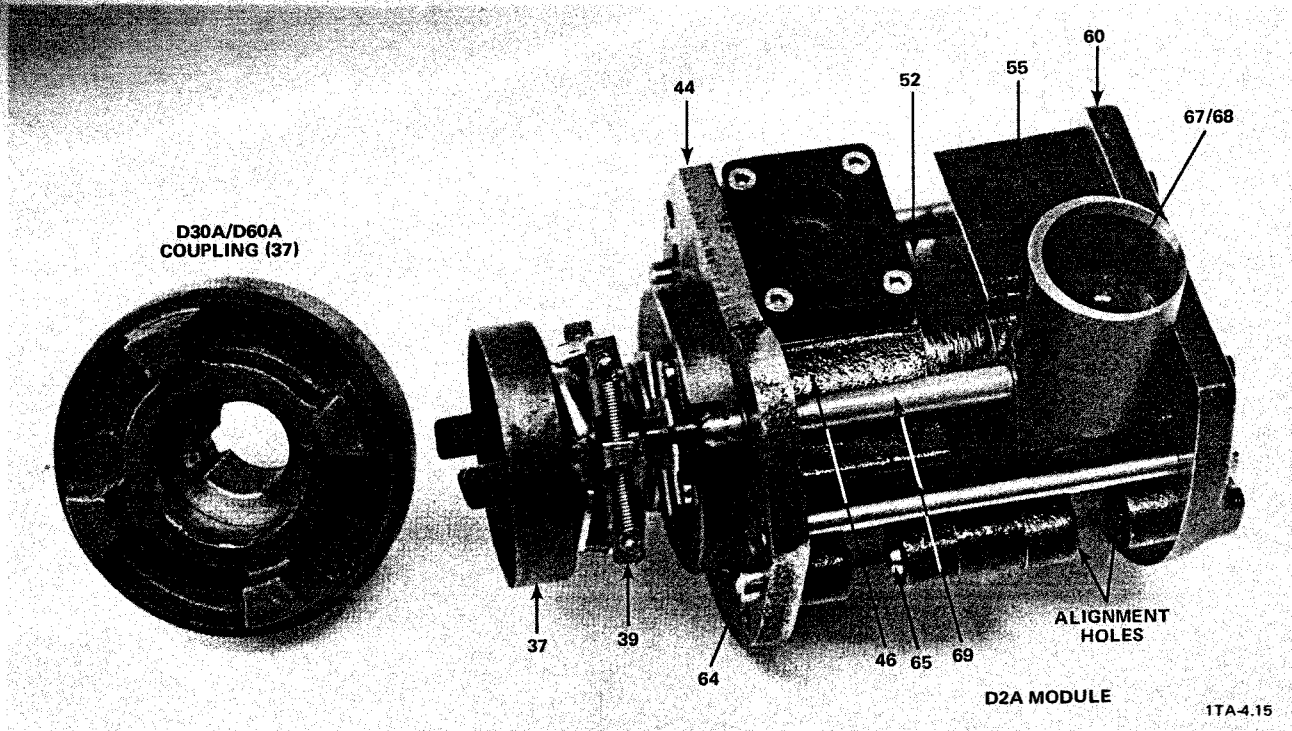
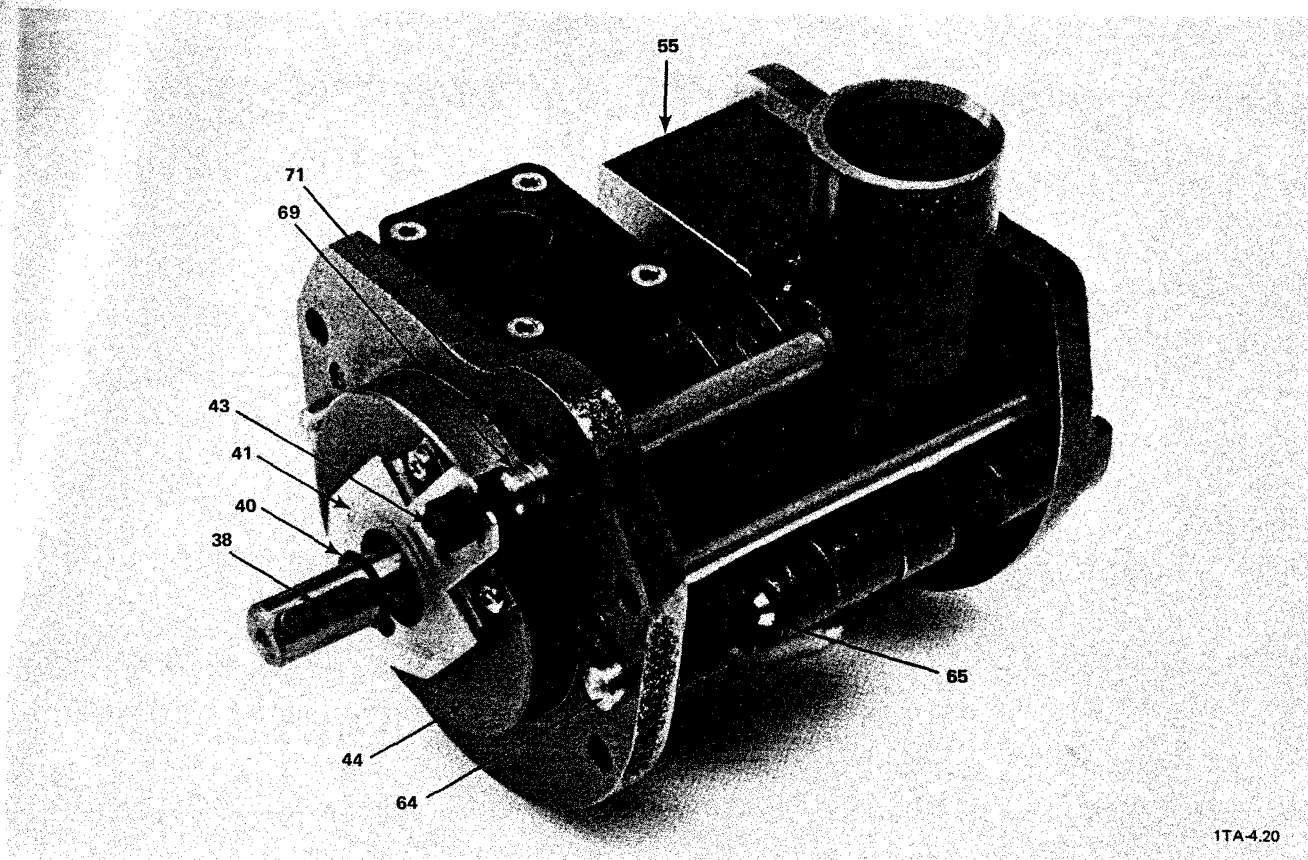

Figure 5-3. Module, Side View (D2A Pump Model Shown)
Figure 5-4. Front End of Module Minus Coupling and Centrifugal Switch (D2A Pump Model Shown)
\*The module is the unit made up primarily of the shaft, rotors, vanes, coupling, centrifugal switch, end plates, pump cylinders, and center bearing. Figure 5-3 shows a module.
**CAUTION:** USE CARE WHEN HANDLING THE MODULE TO AVOID BENDING THE LEVER (41) OR CENTRIFUGAL SWITCH (39) (see Figures 5-3 and 5-4).
- C-1 Using a large pair of long nose pliers, pull the valve disk (67) and attached brass piston (68) out of the intake portion of the high vacuum pump cylinder (55) (see Figures 5-3 and -11).
- C-2 CAUTION:** IF A PULLER IS USED TO REMOVE THE COUPLING (37), BE CAREFUL TO AVOID DAMAGING THE CENTRIFUGAL SWITCH (39).
Using a small screwdriver, loosen the setscrew that secures the coupling (37) to the shaft. Pull the coupling off of the shaft (see Figure 5-3).
- C-3** Using small diagonal cutting pliers, pull the coupling key (38) from the slot in the shaft (see Figure 5-4).
- C-4** Using snap ring pliers, remove the retainer ring (40) from the shaft (see Figure 5-4).
- C-5 NOTE:** For use during reassembly, the centrifugal switch end with the split halves faces the coupling (37).
**For the D2A, D4A, D8A, and D16A models only,** loosen the one or two setscrews that secure the centrifugal switch (39) to the coupling (37) (see Figure 5-3).
**For the D30A, D60A, and D90A pump models only,** loosen the setscrew(s) to remove the centrifugal switch (39) from the shaft rather than from the coupling (37).
- C-6** Using a phillips screwdriver, unscrew and remove the two screws that attach the lever to the front end plate. When removing the lever (41), hold its opposite end down to avoid losing the spring (42) from the penetration in the front end plate (44). Remove the lever (41) and spring (42) from the plate (44) (see Figure 5-4).
- C-7** Using a small screwdriver, remove the retainer disk (71) from the slot in the air inlet (69) tube (see Figure 5-4).
- C-14 Pull the air inlet tube (69) from the front end plate (44) or high vacuum stage pump cylinder (55). (See Figures 5-3 and 5-8.)